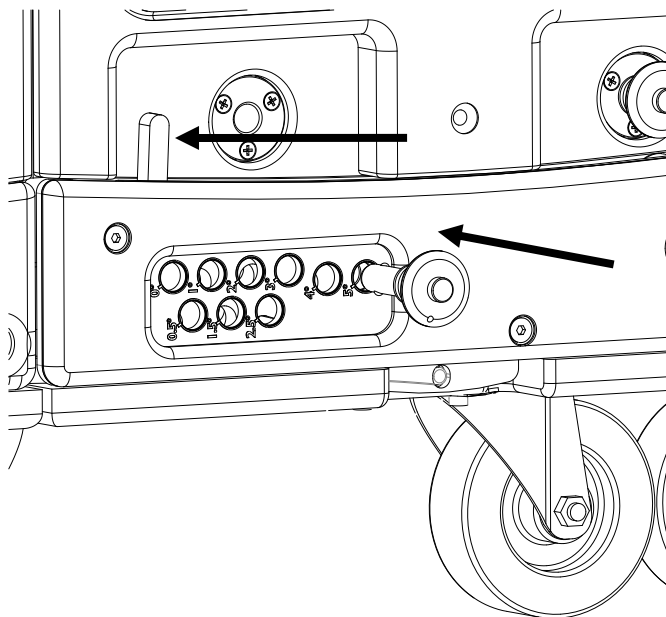

Figure 33: Pre-selecting the angles (5° example)
4. On both sides of each enclosure, pre-select the angle: hold a R-BLP facing to the desired angle hole, slide out the angle arm until the R-BLP enters and locks (see Figure 33).